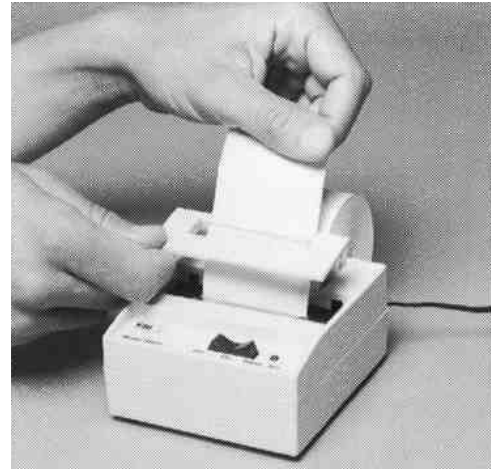

Figure VIII-9. Sliding paper through the printer cover
Step 7. Slide the paper through the slot in the printer cover (fig. VIII-9).